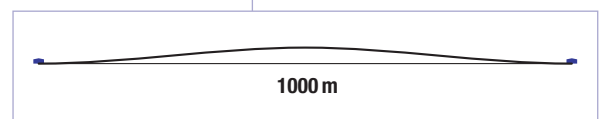

*Figure 3: Gemini greatly increases the coverage area behind a large building.*
**Propagation Around a Building** *Figure 3* shows the coverage behind a substantial building. The deployment is in a flat area with the normal two-story building height of 8 meters upon which the normal installations must take place. There is an “office block” standing 37 meters high and 120 meters wide. The office block represents a 12-story building in this case. In the lower part of the figure, this stands well above the Fresnel zone. The PTP links are installed on the two 2-story buildings, two meters above the roof.
System performance in this area will mostly be at the full data rate with occasional fades into the lower data rate. This is similar to the performance in the dark blue area of *Figure 3*.